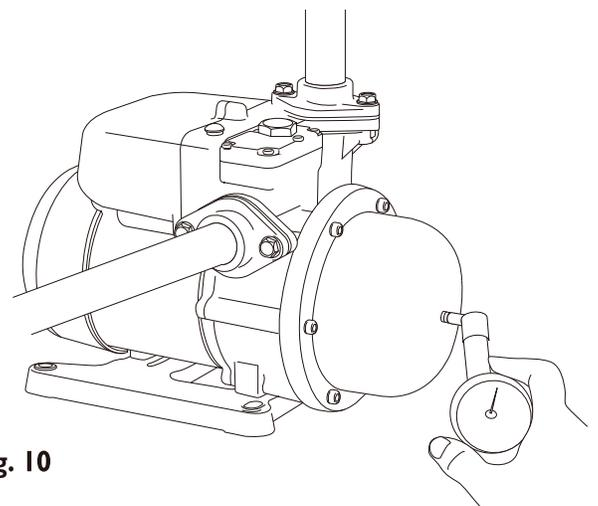

Fig. 10
4. Pressure tank air charge should be checked at regular intervals of every 6 months and after the pump has not been used for a prolonged period. To check the Pressure Tank air pressure, turn off power, open a tap on the discharge line to release pressure from the pump, unscrew the black plastic cover and apply an accurate pressure gauge to the valve as shown in Fig. 10. Pressure should be adjusted to the original pre-charge as follows: